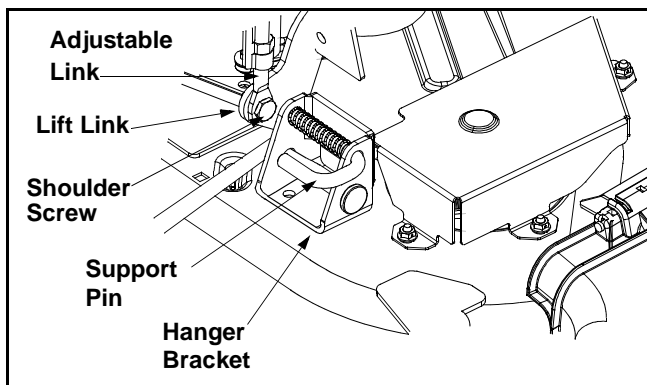

Figure 27
- Align the mower deck so the lift link aligns with the hanger bracket on the mower deck. See Figure 27.